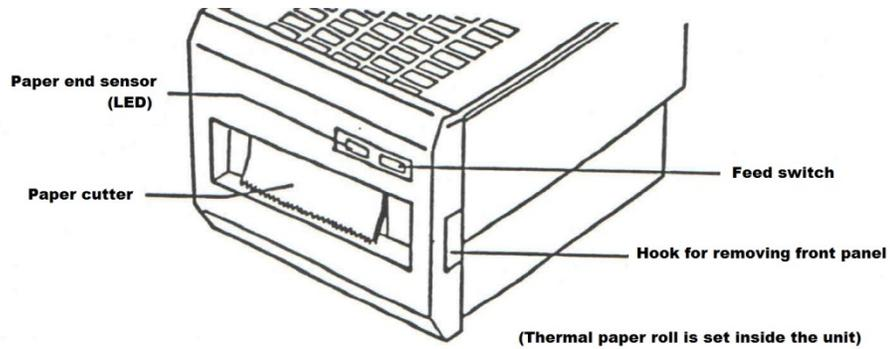
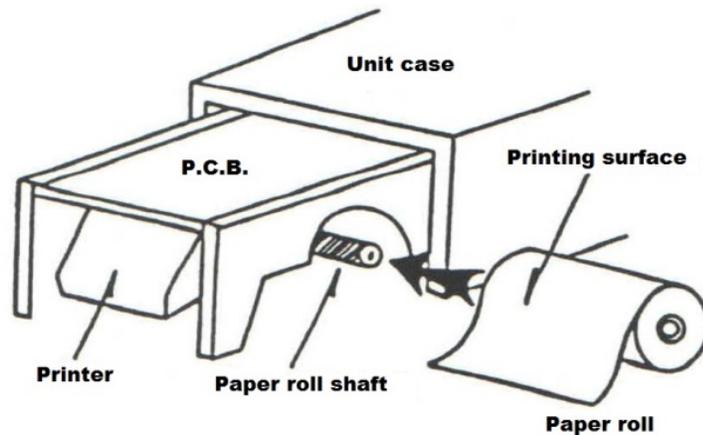

Figure 1
Figure 2
- b. The paper roll is set inside the unit. Gently press the two hooks for removing the front panel (See figure 1), remove the panel, and pull out the printer. (See figure 2)
- c. Press the ends of the paper roll shaft (See figure 2), and pull out the empty roll. Get a new roll of paper and using a pair of scissors, cut about 12 inches of paper off the new roll. This is necessary to remove the tape markings from the roll, otherwise the print head will be damaged.
- d. Set the new paper roll on the shaft (See figure 2).
- f. Repeatedly press the feed switch (See figure 1) until the paper “catches” and comes out from the print head.
- g. Once there is enough paper out of the print head to come out of the paper cutter edge (See figure 1), replace the front panel of the unit.